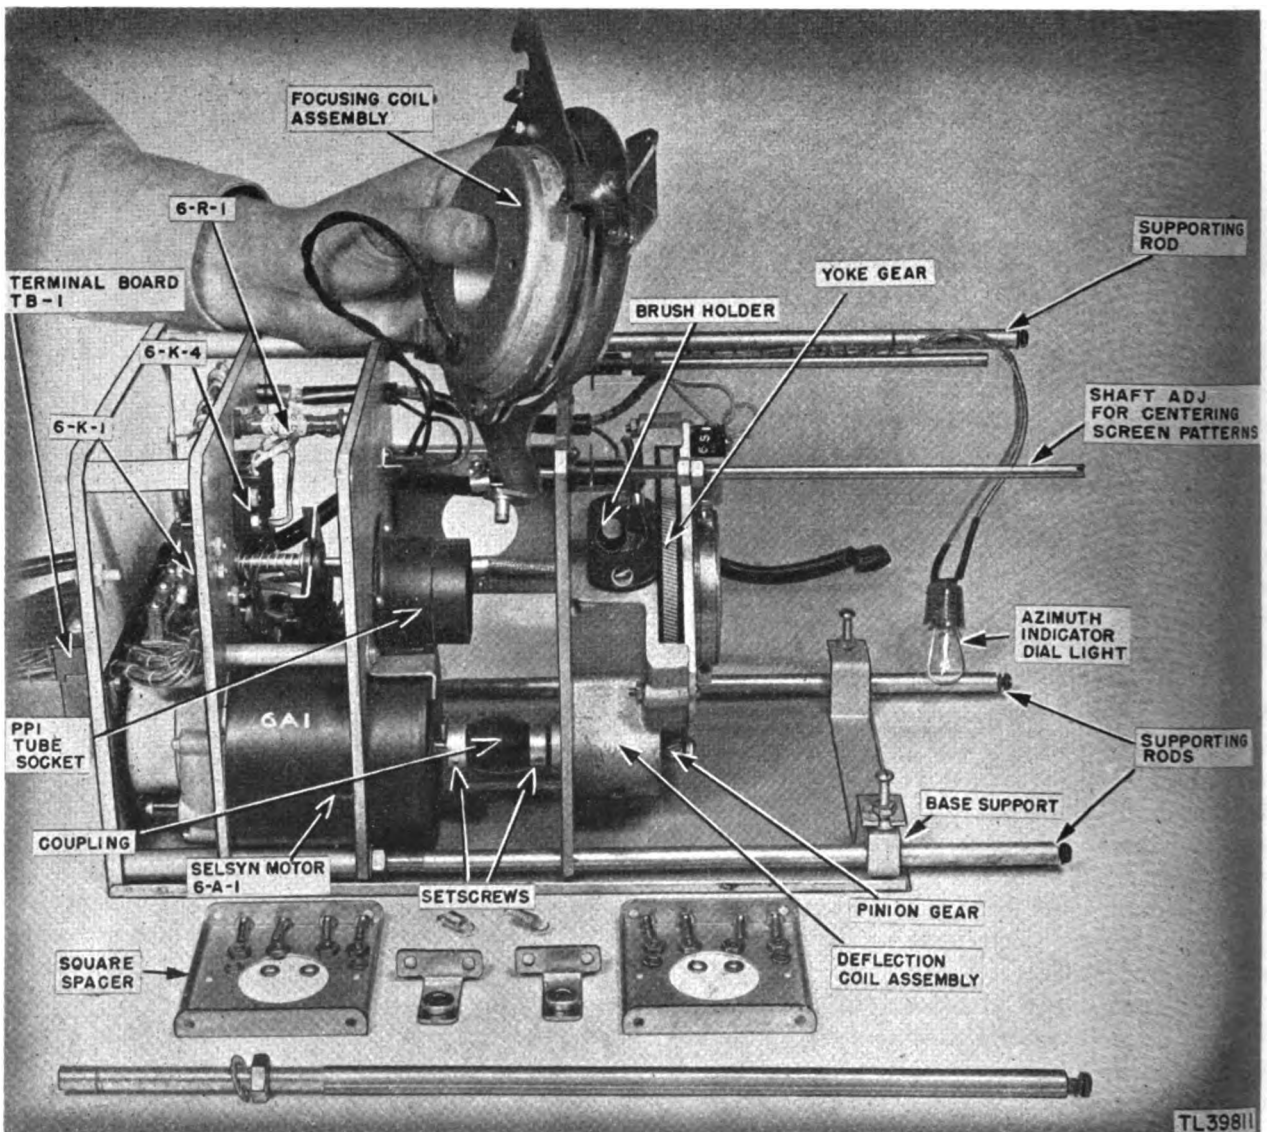
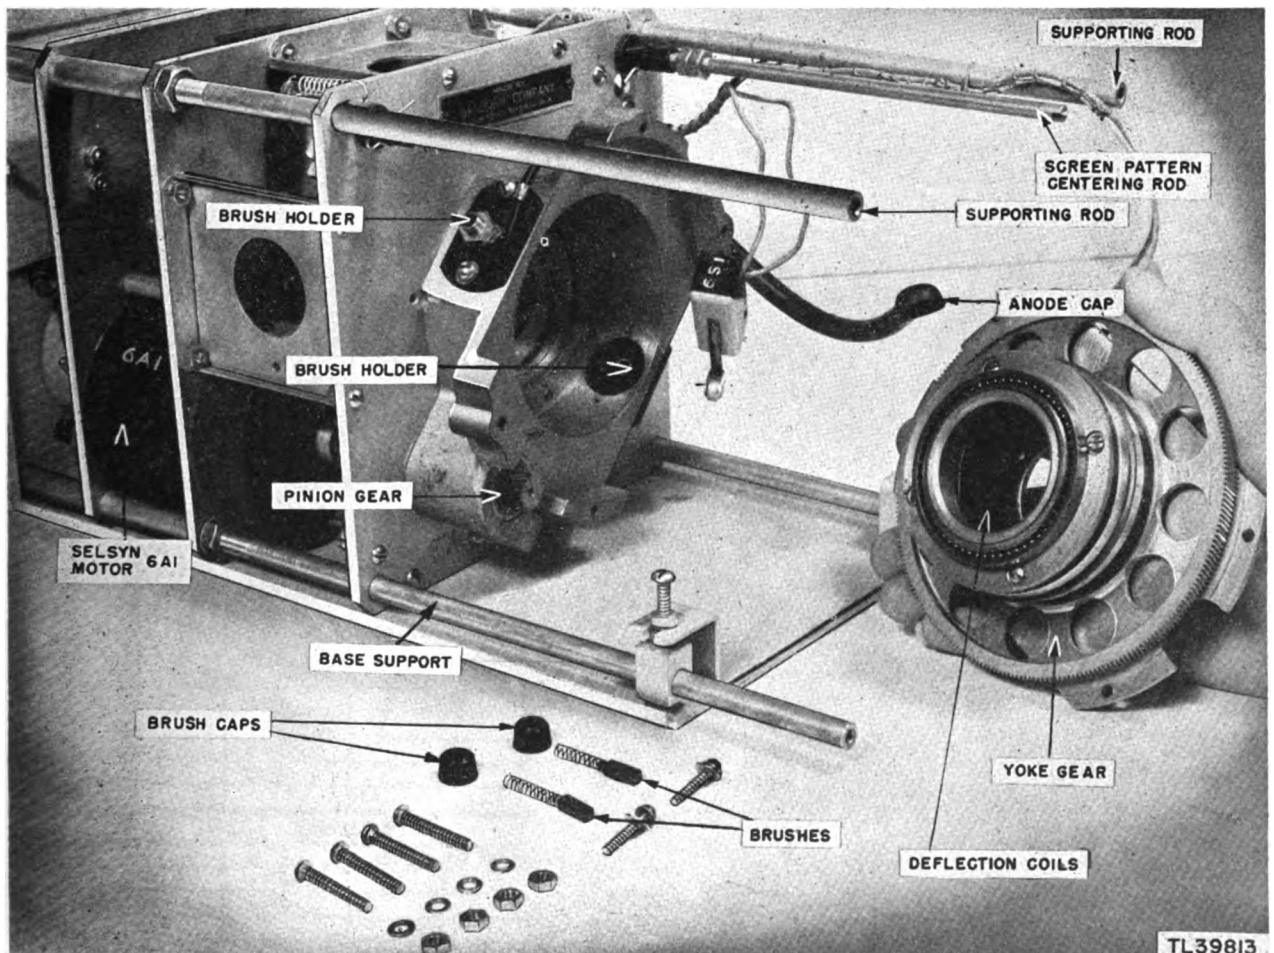

Figure 199. Removing PPI focusing coil assembly.
Figure 200. Removing PPI deflection coil assembly.
**g. REMOVING AND REPLACING FOCUSING COIL ASSEMBLY** (fig. 199). (1) Pull the indicator panel and PPI out of the cabinet onto the operating shelf.
(2) Unclip the azimuth dial lamp socket 6-A-2.
(3) Remove the four 10-32 roundhead machine screws in the front of the indicator panel. Remove the panel from the tube mount assembly by pulling gently forward.
(4) Disconnect the high-voltage connector 6-K-2 from the side of the cathode-ray tube. Remove the tube by pulling it gently forward.
(5) Remove the four bolts holding the square spacer plate above the focusing coils. Remove the plate on the left side above the selsyn by the same method.
(6) Remove the two coil springs which hold the focusing-coil cradle against the centering rods.
(7) Remove the four screws holding the two bearing brackets which hold the focusing-coil frame.
(8) Remove the upper-left frame rod by loosening the locknut and unscrewing the rod.
(9) Partially withdraw the centering rod in the upper-left corner. Be certain to count the number of turns this rod is turned in withdrawing, so that the spot will be centered when the equipment is reassembled.
(10) Pull the focusing-coil frame out from its mounting and unsolder the leads from the fiber terminal strip.
(11) To reassemble, follow these steps in reverse order.
**h. REMOVING AND REPLACING DEFLECTION COIL ASSEMBLY (fig. 200).** (1) Pull the indicator panel and PPI out of the cabinet onto the operating shelf.